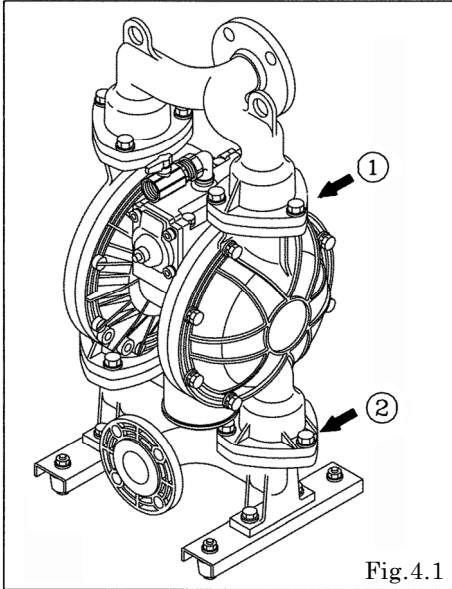

Fig.4.1
- Remove the 6 (8 on the NDP-500, NDP-80, and NDP-800) retainer bolts "1" from the out manifold, and remove the out manifold. [Fig.4.1]
- Remove the 6 (8 on the NDP-500, NDP-80, and NDP-800) retainer bolts "2" from the in manifold, and remove the in manifold. [Fig.4.1]